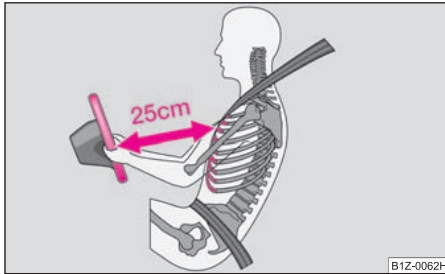

Fig. 125 Safe distance to steering wheel
- For the driver and front passenger it is important to maintain a distance of at least 25 cm from the steering wheel or dash panel ⇒ fig. 125. Not maintaining this minimum distance will mean that the airbag system will not be able to properly protect you - hazard! The front seats and the head restraints must always also be correctly adjusted to match the body size of the occupant.